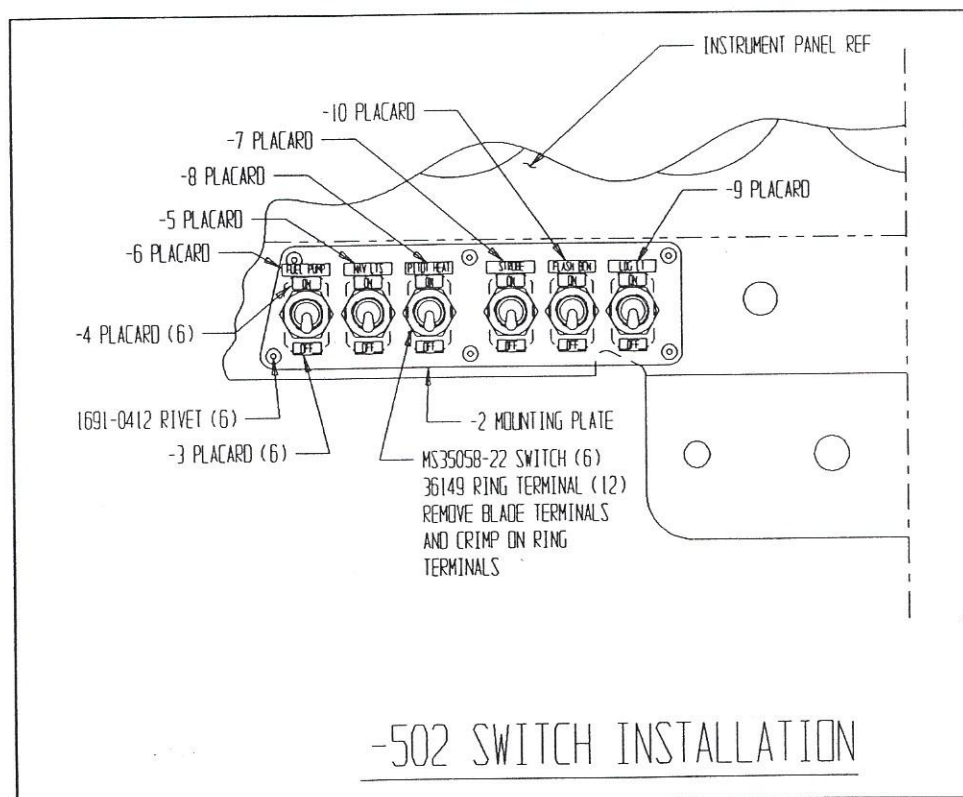

Figure 4
7. Attach the FA102312-2 mounting plate to the instrument panel using the rivets provided (see Figure 4).
9. Affix the placards provided as shown in Figure 4.